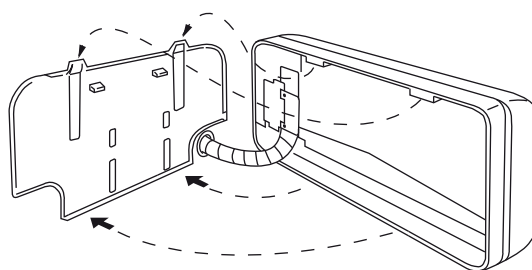
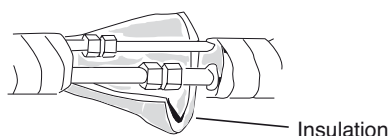

Fig. 36
Fig. 37
- (2) Push the wiring, refrigerant tubing, and drain hose through the hole in the wall. Adjust the indoor unit so it is securely seated on the rear panel. (Fig. 36)
- (3) Carefully bend the tubing (if necessary) to run along the wall in the direction of the outdoor unit. (See Caution on page 12 in the outdoor unit installation manual.) The drain hose should come straight down the wall to a point where water runoff won't stain the wall.
- (4) Connect the refrigerant tubing to the outdoor unit. (After performing a leak test on the connecting part, insulate it with the tubing insulation. (Fig. 37)) Also, refer to Section 3-6. Tubing connections in the outdoor unit installation manual.
- (5) Assemble the refrigerant tubing, drain hose, and inter-unit wiring as shown in Fig. 37.